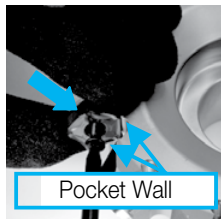

Fig.1
2. After applying anti-seize compound on portion of taper and thread, while pressing the insert against the constraint surfaces, put the screw into the hole of the insert and tighten the screw with appropriate torque. Ref. to Fig. 1 and Fig.2.